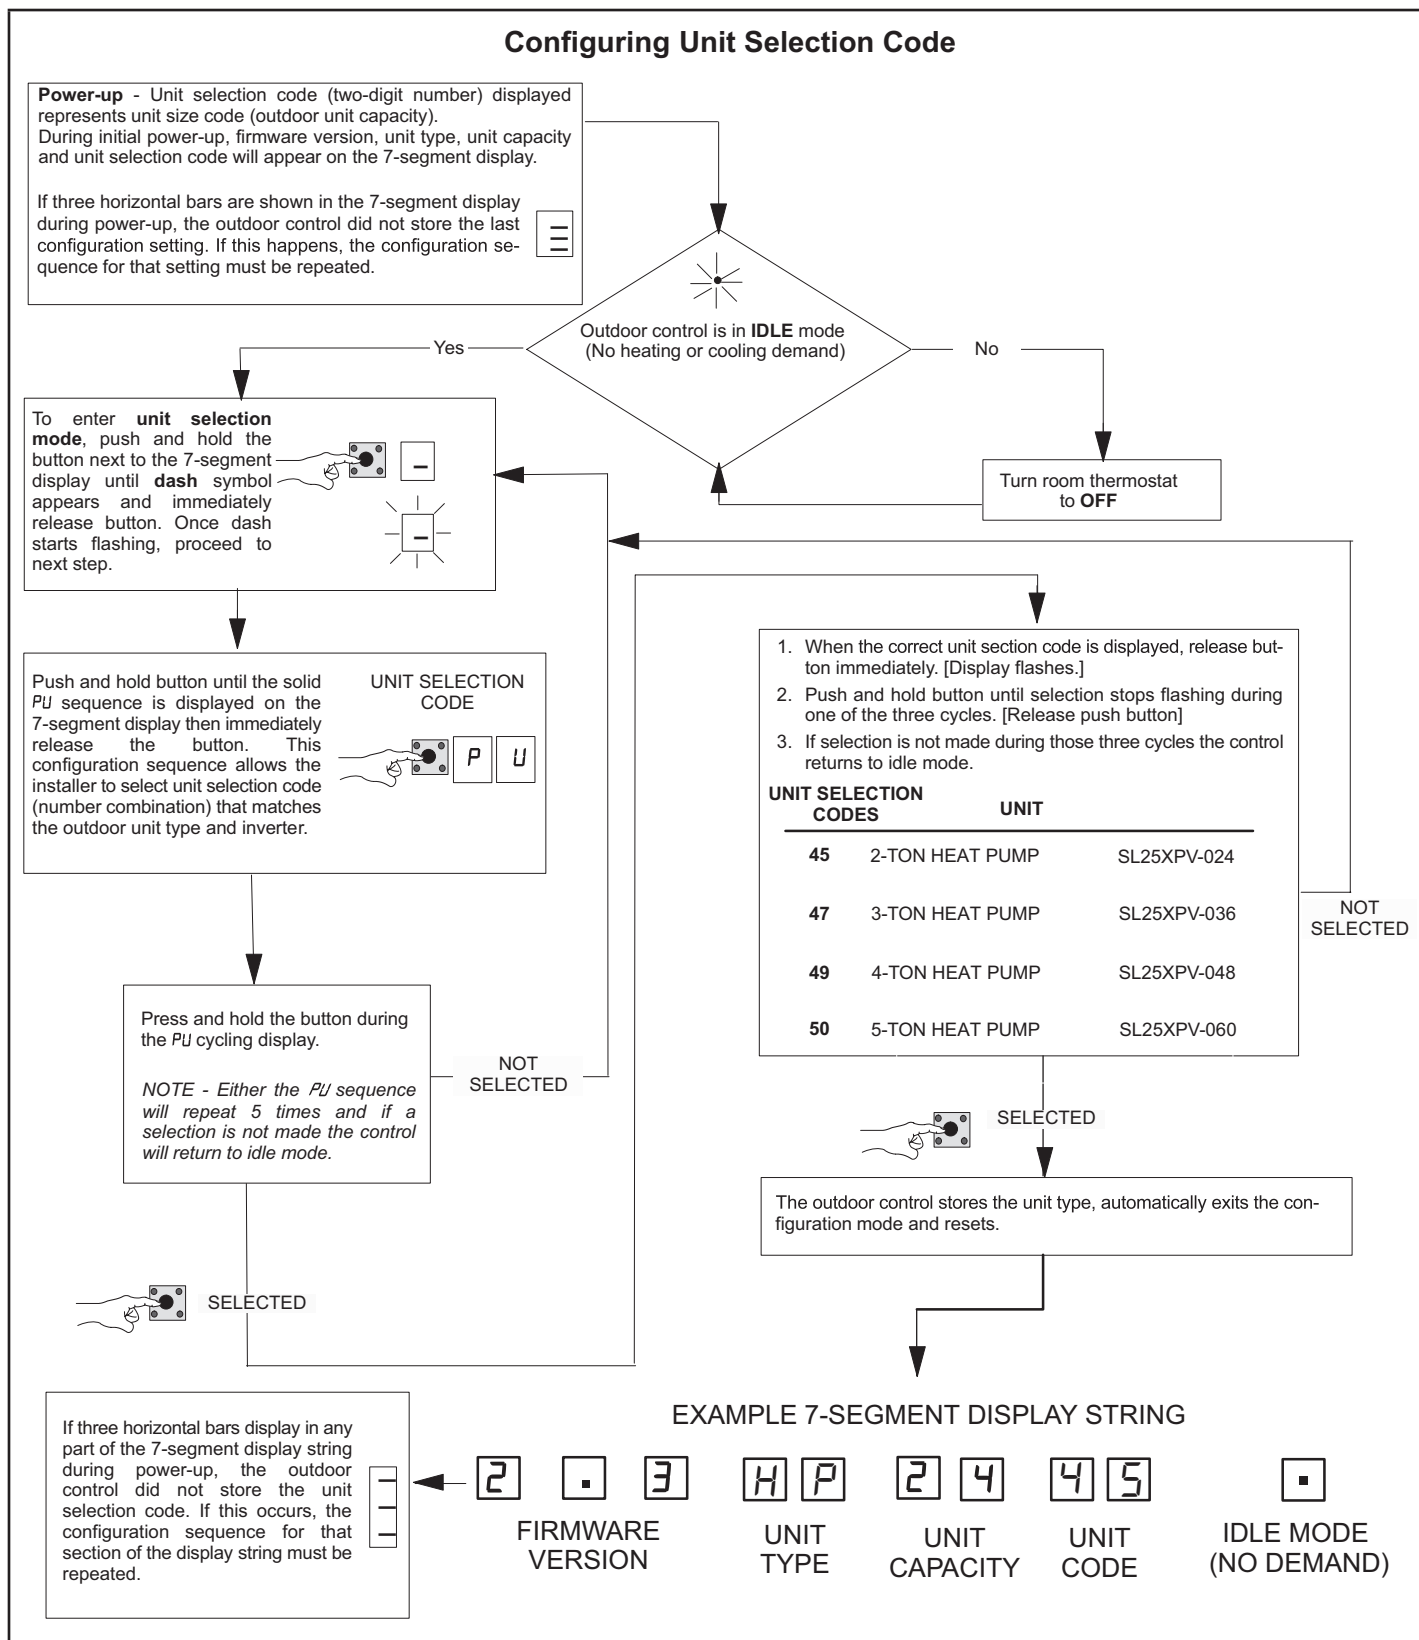

FIGURE 25. Configuring Unit Selection Code
If the single-character display shows three (3) horizontal lines, the unit selection code needs to be programmed. Press and hold the button until the **P U** menu option is displayed, release button. The single-character display displays the selected mode per example in figure 25 on page 49. When the desired unit selection code appears, press and hold the button until it stops flashing, then release.